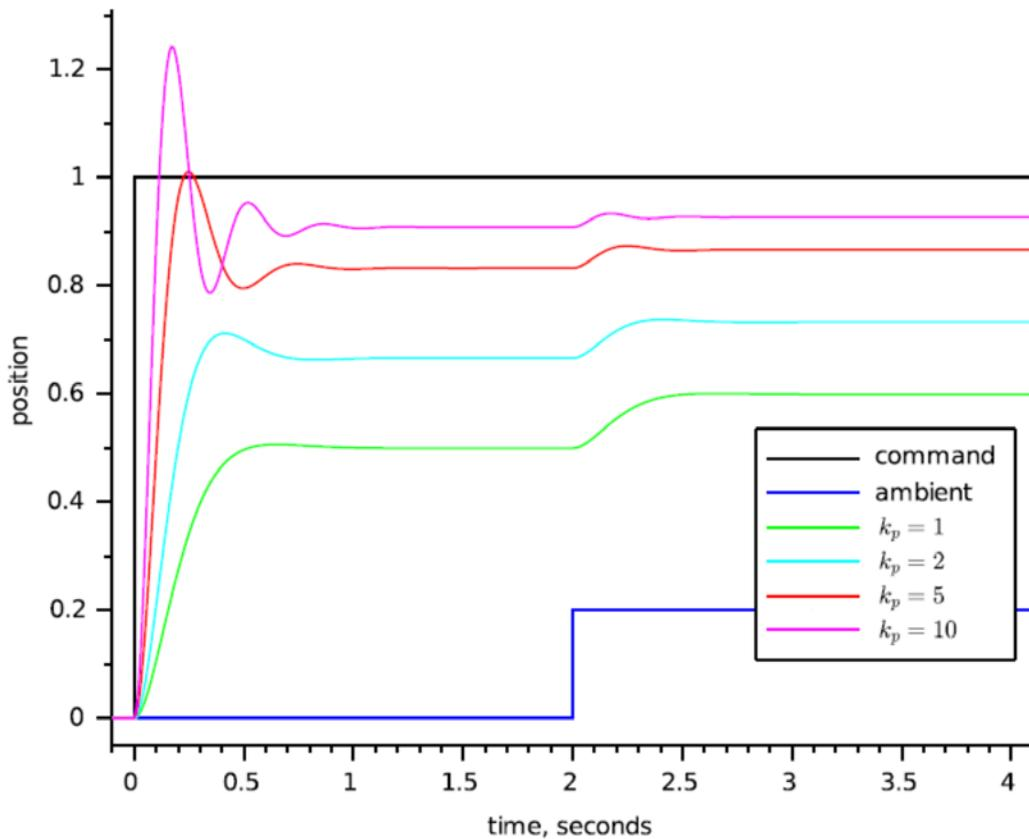
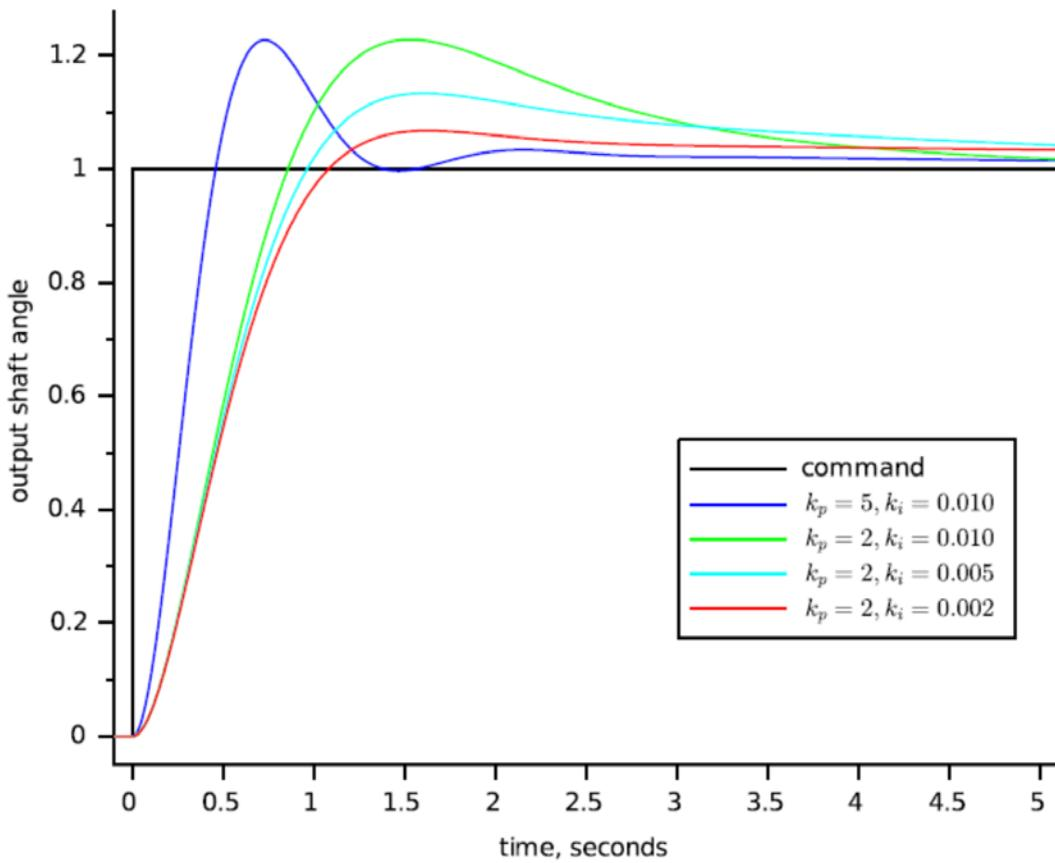

Figure 5: Temperature controller with proportional feedback. The kink at time = 2 is from the external disturbance [1].
Figure 7: PID control response ^[1].
Figure 5 shows what happens when one adds proportional feedback to the motor and gear system. The motor goes to the correct target for small gains ($k_p = 1$), but it does this quite slowly. Increasing the gain ($k_p = 2$) speeds up the response to a point. Beyond that point ($k_p = 5$ or 10), the motor starts out faster, but it overshoots the target. In the end, the system does not settle any quicker than it would have with low gain, but there is more overshoot. If gain continues to be increased, it most will eventually reach a point where the system just oscillates around the target and never settles. The system would be unstable.
Meanwhile, Figure 7 shows the motor and gear with proportional-integral (PI) control. Compare this with Figures 5 and 6. The position takes longer to settle than the system with pure proportional control, but it will not settle to the wrong spot.